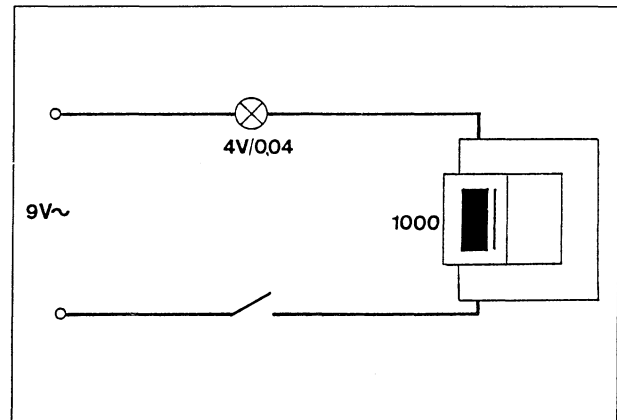

Fig. 4 Circuit diagram: choke
► Circuit diagram Fig. 4 and Fig. 3.
20. What function does the coil with the U-core and yoke have in the circuit shown in Fig. 4?